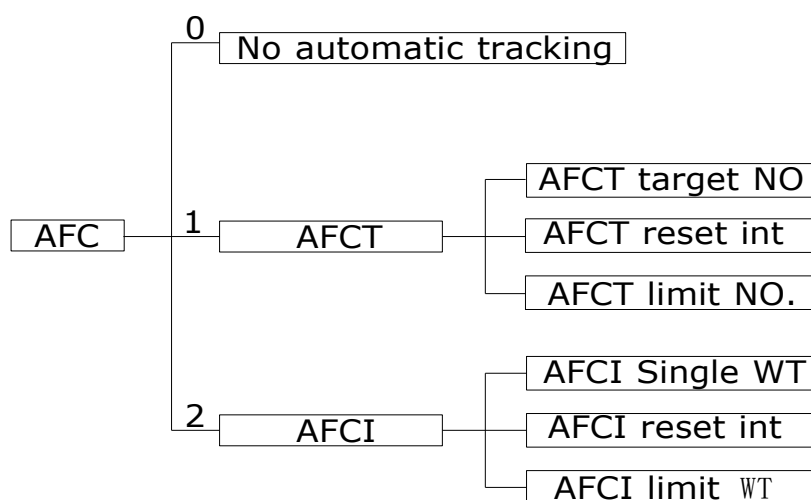

Fig. 6.1.1
5. AFC is used to choose the automatic feeder control mode. Please refer to Fig. 6.1.1. The recommended value is 0. If you decide to choose AFCT or AFCI mode, please read the following contents carefully.